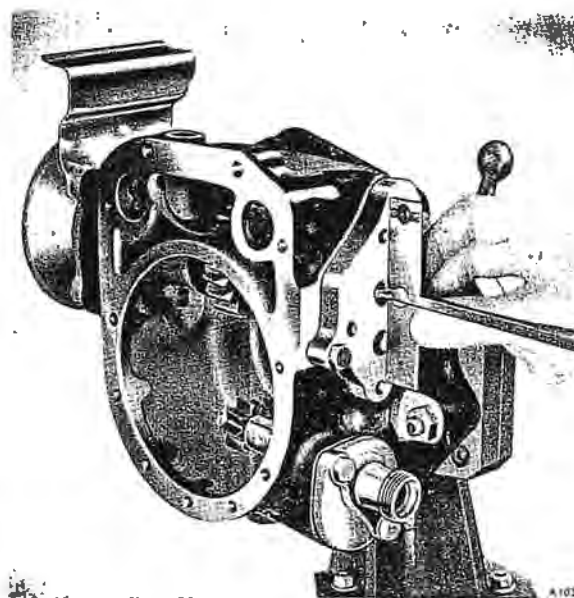

Fig. 91 Checking driving key clearance
- 3 Insert the driving key, then press it fully home and measure the clearance between the end of the driving blade and the outer surface of the intermediate plate as shown in Figure 91.